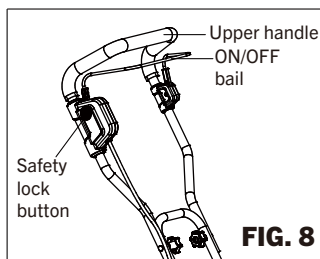

FIG. 8
2. To turn the tool ON, press and hold the safety lock button while squeezing the ON/OFF bail. Once the tool is running, release the safety lock button (Fig. 8).
3. To switch OFF, release the ON/OFF bail (Fig. 8).